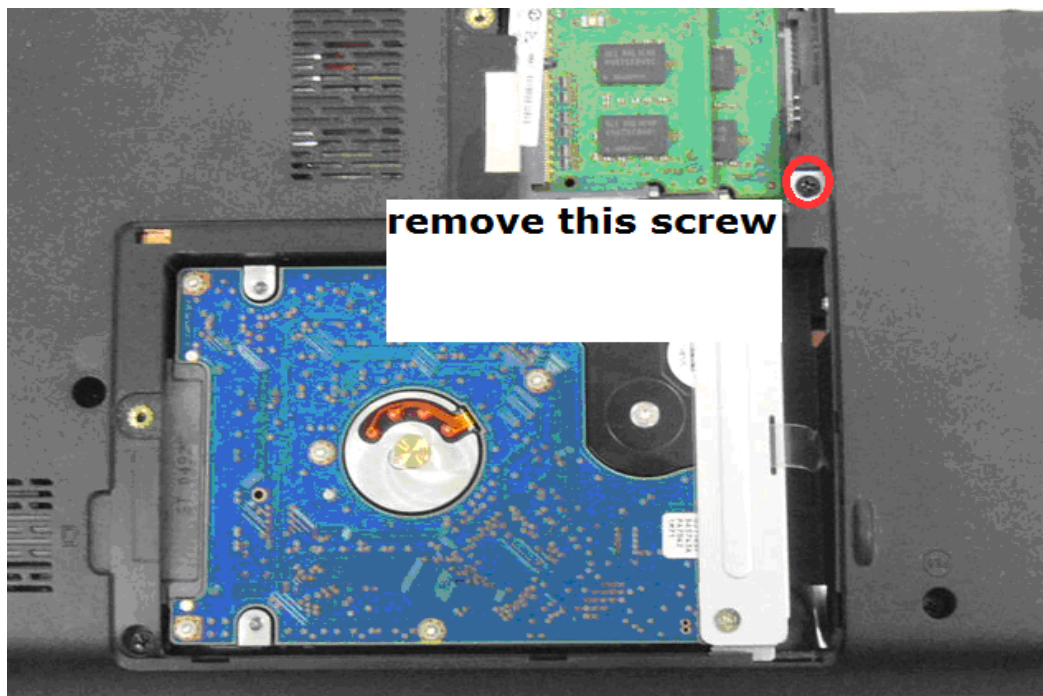

Figure 4-5-1 Remove one screw which is used to fix ODD
3. Remove SCREW M2.5*3.0F 1PCS securing the ODD assembly(see Figure 4-5-1)